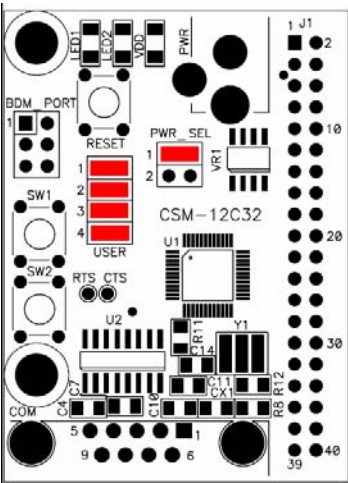

Figure 1. Application Module Jumper Settings
- 1) Verify that all the jumper settings are configured properly on the application module as shown by Figure 1. Application Module Jumper Settings. Highlighted blocks indicate the on or installed position of jumpers. Table 1 summarizes the default state for the jumper settings. Please refer to application module user guide for more details and alternative configurations.